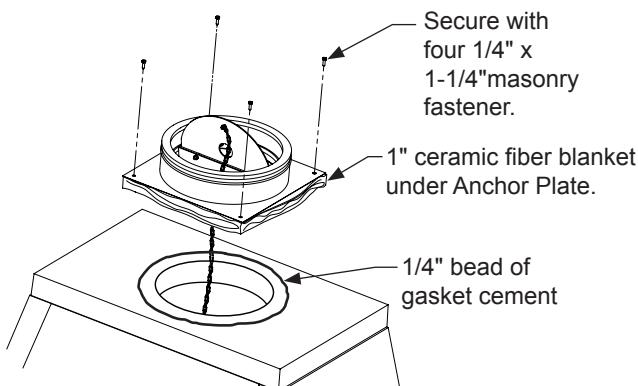

Figure 47 - Installing Anchor Plate
14) Finally, set the Dome Top into position (Figure 47, page 27). Be sure that it is flush in every direction as you place it on the crest of the smoke dome wall assembly. After this is done, proceed to section on Installing Damper and Chimney System on page 28.
Apply balance of gasket cement in a $\frac{1}{4}$ " bead on top of smoke dome approximately $1\frac{1}{2}$ " around periphery of chimney hole. Install damper assembly on top of unit pressing damper and insulation blanket into cement (Figure 47). Secure with four $3/16$ " X $1\frac{3}{4}$ " masonry screws (included).